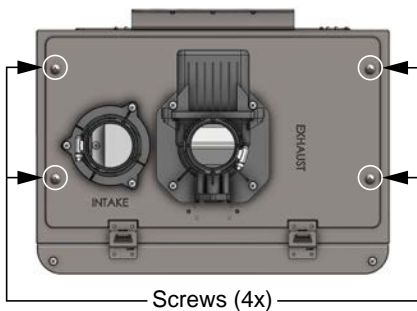

Figure 32 - Remove Screws from Top Plate
- 1 Turn **OFF** power and gas supply to the water heater. Remove the four screws from the top plate of the water heater as shown in Figure 32.